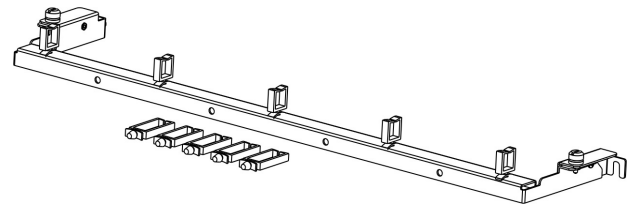

Figure 1. CBS-100
1.1 The NAC CBS-100 is a pivoting bar designed for cable management on a 19" rack. The CBS-100 is 3.6". The pivoting bar can swing down 45° to allow clearance for equipment maintenance or service installs without disrupting other services. The bracket comes with holes for cable ties and plastic rings for fiber. Refer to figure 1 and 2 for reference.